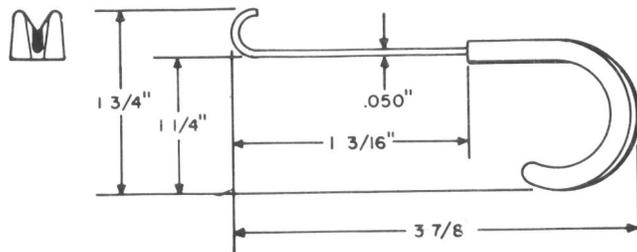

Fig. 5—KS-20620, L1, Wire Stripper Tool
2.05 KS-20620, L1 Through L7: The KS-20620, L1 through L7 (Fig. 5, 6, 7, 8, and 9) are light-weight wire stripper tools equipped with sharp-edged grooves for removing insulation from conductors. For additional information, refer to Table A.